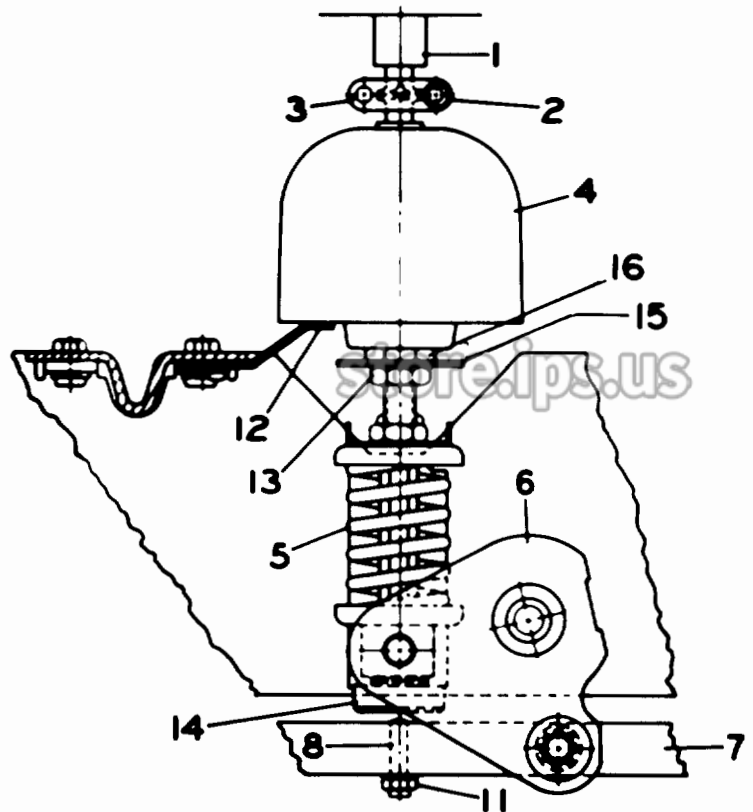

Fig. 12 Primary Contact Gap and Erosion Indication
To adjust, loosen the locking nut, (53) Fig. 4 ($\frac{3}{4}$ hex) holding the stop bolt to the horizontal connecting bar, and then unscrew the stop bolt ($\frac{3}{4}$ hex) to decrease latch clearance while pushing the manual trip push button in and out until the trip roller just starts to turn. (NOTE: Before making adjustments to the trip latch clearance the overtravel stop bolts, (8) Fig. 12, should be backed out of the horizontal connecting bar two turns.) Now, screw in on the adjusting bolt until the roller no longer turns plus an additional $\frac{1}{4}$ turn. Torque the lock nut to 55 foot-pounds while holding the adjusting screw. This sets latch clearance at a minimum and any mechanism wear will tend to increase the clearance. When 0.060 inch clearance is reached readjustment will be required.
Refer to Fig. 12. Six adjustable bolts, (8) are threaded into the horizontal connecting bar to provide stops for each pole to prevent overstroking the Power/Vac* interrupters. Each of these bolts should be backed out of the horizontal connecting bar two turns prior to performing adjustments to
Wipe is the additional compression of the pre-loaded wipe spring, (5) Fig. 12, which is used to apply force to the closed vacuum interrupter contacts. Proper adjustment of the wipe springs is necessary to assure that the vacuum interrupter contacts will stay closed against the forces which tend to open them due to fault currents and to supply the propelling energy required to attain the correct opening speed needed for a clean interruption of the current.
- (3) Measure the position of the Operating Rod (4) Fig. 12, relative to the breaker frame. Measure all three phases. (SUGGESTION: place a piece of masking tape vertically on the operating rod and using a block (approx. 2" height) that spans the frames draw a line on the tape to indicate the position when the breaker is closed. Leave the tape in place and in step 6 draw another line on the tape when the breaker is opened. The distance between these lines is the gap for that phase.)
- (4) Remove the trip latch blocking bolt installed in Step 1 and open the breaker by pushing the manual trip push button.
- (5) Repeat Step No. 2 to measure the position of the wipe indicator with the breaker open. Subtract the two measurements of the screw length to obtain the wipe of each phase.
- (6) Repeat Step No. 3 to measure the position of Operating Rod with the breaker in the open position. Subtract the two measurements to obtain the vacuum interrupter contact gap for each phase. (If the suggestion in Step 3 was followed, remove the tape from the operating rod, place it on a flat surface and measure the gaps directly as the distance between the two lines on the tape.)
- (7) Compare the wipes and gap measured with the following chart:
3. Loosen but do not remove the $\frac{1}{4}$ " hex bolts holding the coupling clamp, (2) Fig. 12. Be sure that the clamp can be rotated freely by hand.
4. Hold the hexagon projection at the bottom of the Operating Rod (1- $\frac{1}{8}$ " wrench) and loosen the adjacent lock nut (13) Fig. 12 (15/16" wrench).
6. After completing the adjustment, torque the Operating Rod Locknut, (13) Fig. 12, to 40-50 foot-pounds while preventing the Operating Rod from turning. Tighten the coupling clamp screws to 10-12 foot-pounds.
In the closed position, the indicator disc, (15) Fig. 12, below the operating rod is aligned with a reference arm (12) on new interrupters. With the breaker in the closed position, the indicator disc after inservice fault interruptions will move upward from alignment with the reference point due to contact erosion. Contact erosion will decrease the wipe which may be brought back to normal by performing wipe adjustment. When erosion reaches $\frac{1}{8}$ inch (the misalignment of the indicator disc and the reference arm with the breaker closed) the interrupter should be replaced.